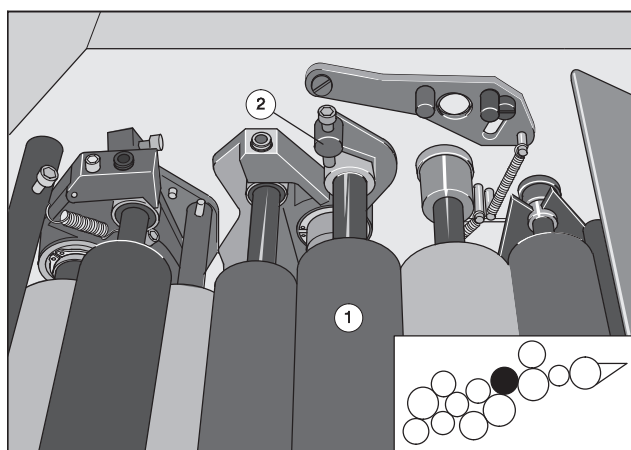

Fig. 50 Inserting the 1st ink transfer roller
The 1st ink transfer roller (Fig. 50/1) is beveled at the ends.
2. Press the lever at the journal box on D.S. (Fig. 50/2) and O.S. towards the delivery across the ball bearing.